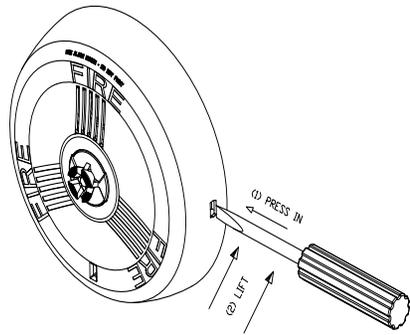

Figure 7: Removing a Strobe Cover
- To remove the appliance, insert a small flat-bladed screwdriver into the side opening 1/2" as shown in Figure 7. Then pry off the beauty cover with the screw driver and remove mounting screws.